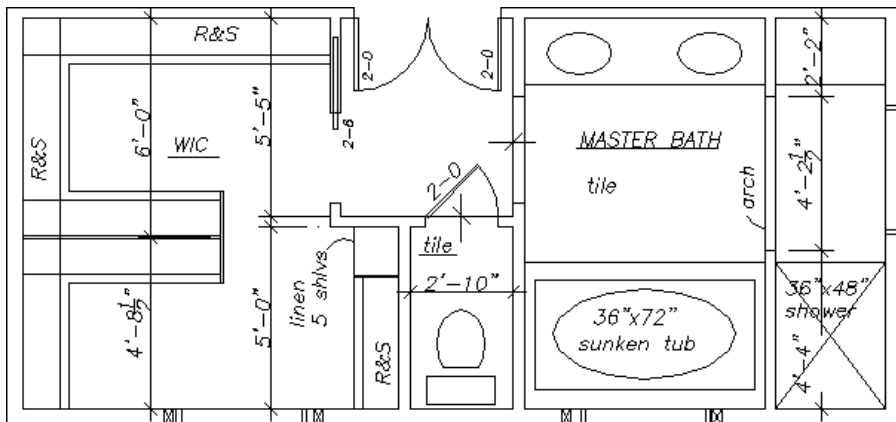

Figure 13-6: The master bathroom plan drawing with added single-line text
5. Save your drawing. It should look like Figure 13-6.